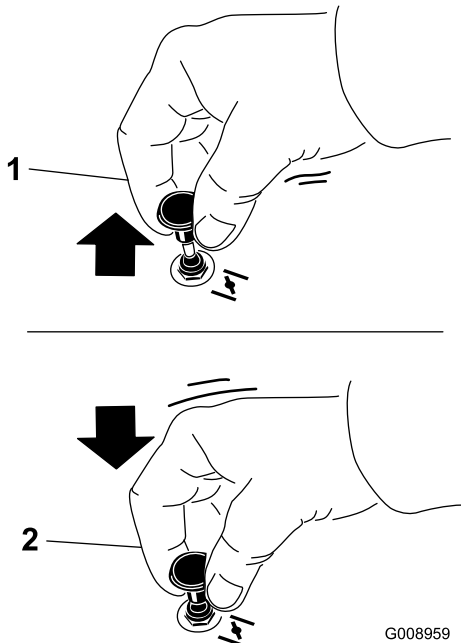

Figure 15
2. Pull up on the choke knob to engage the choke before using the ignition switch (Figure 15).
3. Push down on the choke to disengage the choke after the engine has started (Figure 15).